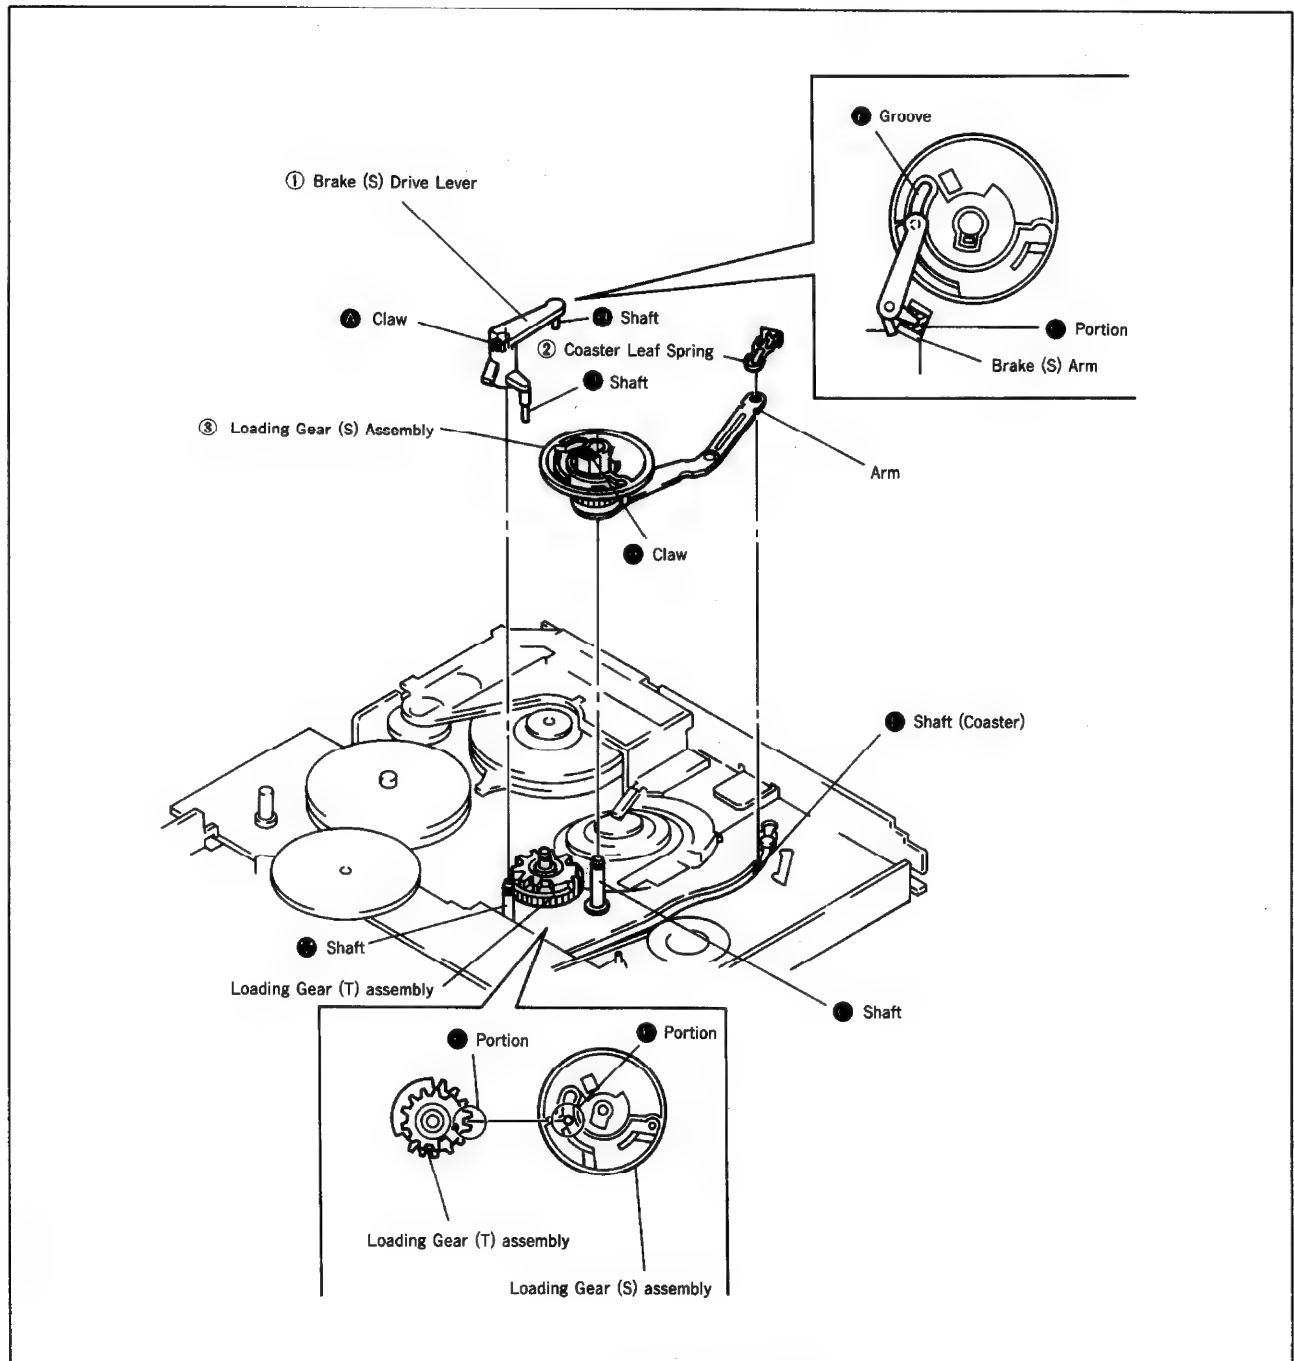

Fig. 24
#### 4-18. LOADING GEAR (S) ASSEMBLY (Fig. 24)